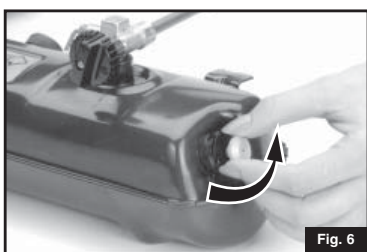

Fig. 6
- Open PUMP KNOB one full turn. (Fig. 6)